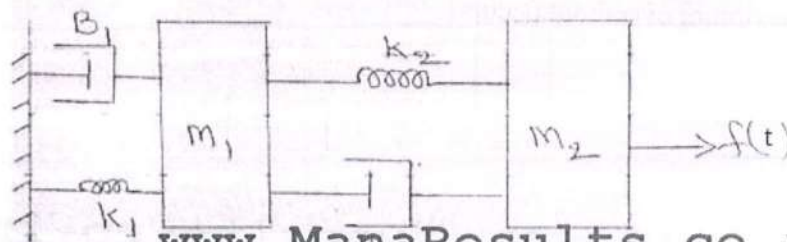

Figure 2
- b) Write the differential equations to represent the following system in figure 2 below and draw its electrical equivalent circuit [5+5]